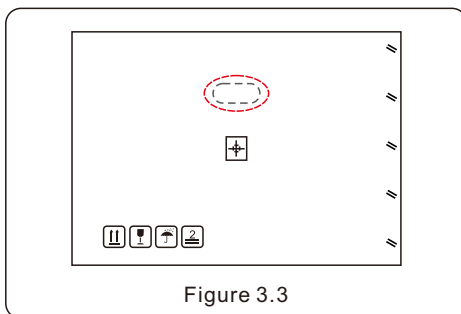

Figure 3.3
1. The red circles below denote cutouts on the product package - one per side. Push in the cutouts to form handles for moving the inverter (see Figure 3.3).